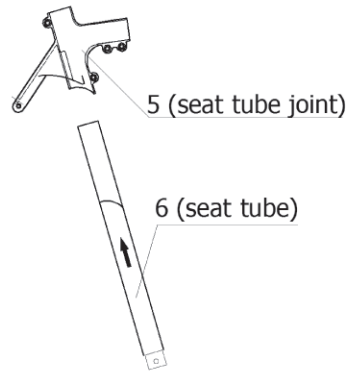

Figure 10-1.
b. Insert Part 6 into Part 5 in the direction of the arrow on Part 6, as shown in Figure 10-1.